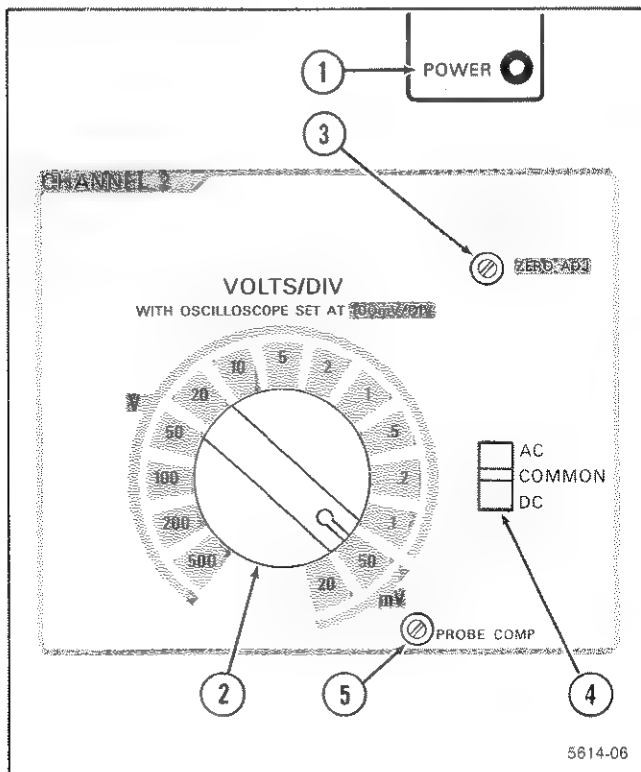

Figure 3-1. Front-panel controls and indicator.
Refer to Figure 3-1 for the location of items 1 through 5.